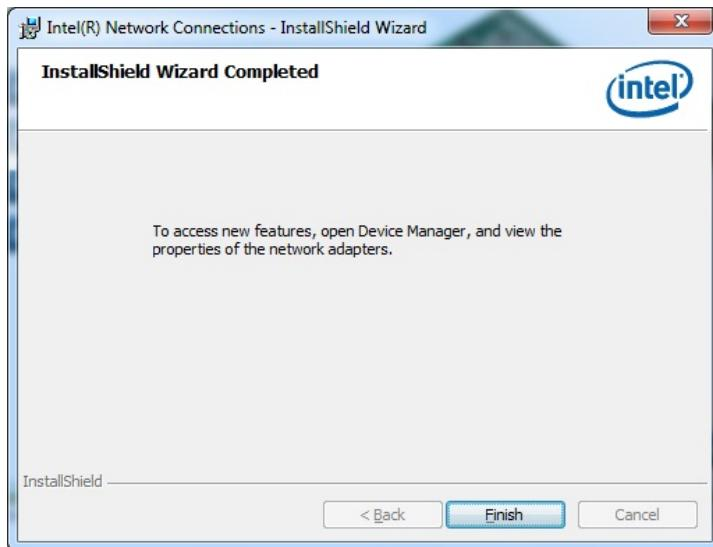

**Figure 6-12: LAN Driver Installation**
**Step 15:** The Ready to Install the Program screen in **Figure 6-12** appears.